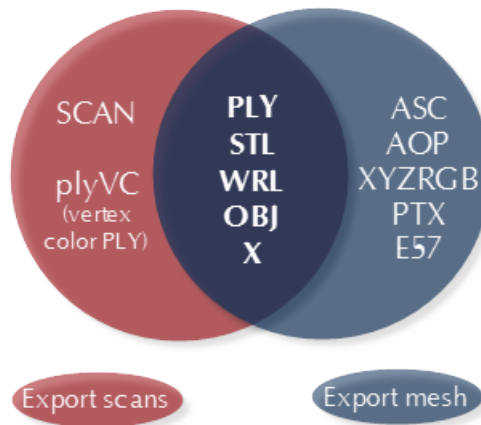

Figure 7.2: Formats available for each command as well as for both commands.
4. Select *Scan export format* using the eponymous dropdown list (see Figure 7.2).